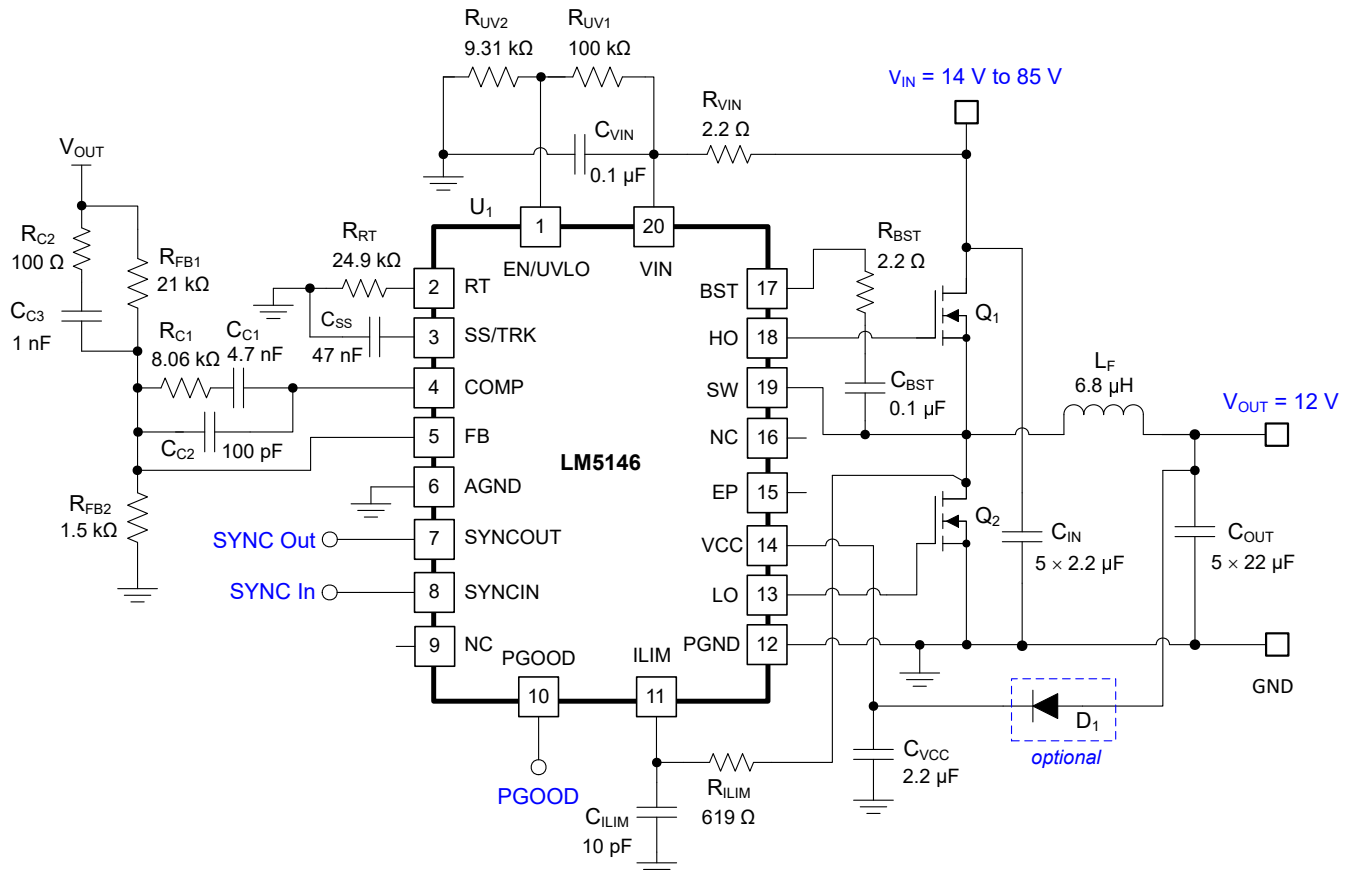

Figure 9-16. Application Circuit 2 With LM5146 48-V to 12-A Synchronous Buck Regulator at 400 kHz
Figure 9-16 shows the schematic diagram of a 400-kHz, 12-V output, 8-A synchronous buck regulator intended for 48-V telecom applications.
As shown in Figure 9-16, a 2.2- Ω resistor in series with C_{BST} is used to slow the turn-on transition of the high-side MOSFET, reducing the spike amplitude and ringing of the SW node voltage and minimizing the possibility of Cdv/dt-induced shoot-through of the low-side MOSFET. If needed, place an RC snubber (for example, 2.2 Ω and 100 pF) close to the drain (SW node) and source (PGND) terminals of the low-side MOSFET to further attenuate any SW node voltage overshoot and/or ringing. Please refer to the application note Reduce Buck Converter EMI and Voltage Stress by Minimizing Inductive Parasitics for more detail.
3. Placing a 2- Ω to 10- Ω resistor in series with the boot capacitor, as shown in Figure 9-16, slows down the high-side MOSFET turn-on transition, serving to reduce the voltage ringing and peak amplitude at the SW node at the expense of increased MOSFET turnon power loss.